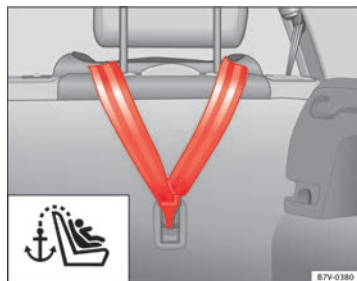

Fig. 28 Upper retaining strap hooked in the luggage compartment
- Hook the upper retaining strap to the corresponding retaining ring (for TOP TETHER) on the back of the seat backrest on the rear seat ⇒ Fig. 28.